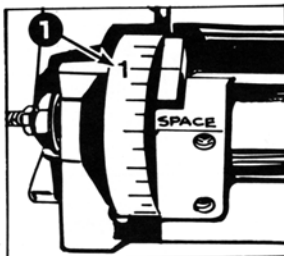

FIGURE 8
2. Position spacing cam on #1. See figure 8.